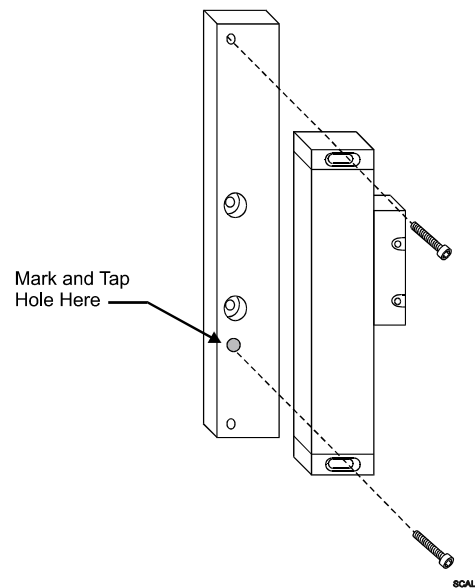

Figure 3-36, Installing the Z-Axis Linear Encoder
8. Use two 6-32 x 1" socket head screws, P/N 86100141, provided to mount the linear encoder on the backer bar **Figure 3-36, Installing the Z-Axis Linear Encoder**. Indicate the edge of the scale. Ensure that it is aligned with the quill's vertical travel, $\pm 0.002"$. Next, indicate the face of the scale to $\pm 0.002"$.